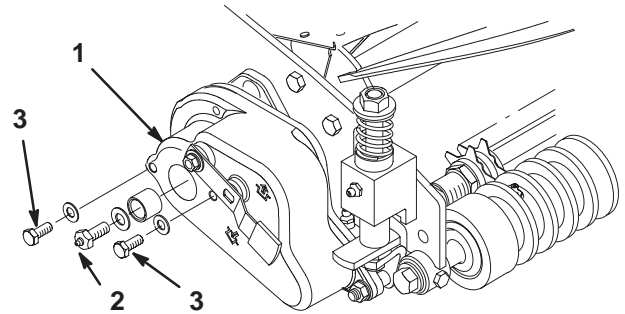

Figure 9
1. Remove the 2 screws and lock washers from the groomer drive cover (Fig. 9). Also, remove the screw with the grease fitting or relief valve, the washer, and the spacer.